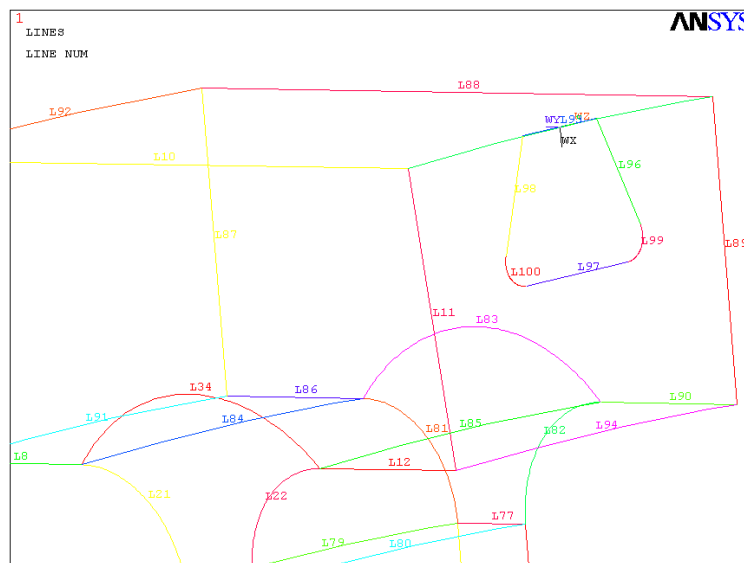

Fig. 6.7. Contour of groove of disc
5) Add a fillet radius 0,002 m between lines L96 and L97, and between lines L98 and L97 (Fig. 6.7);